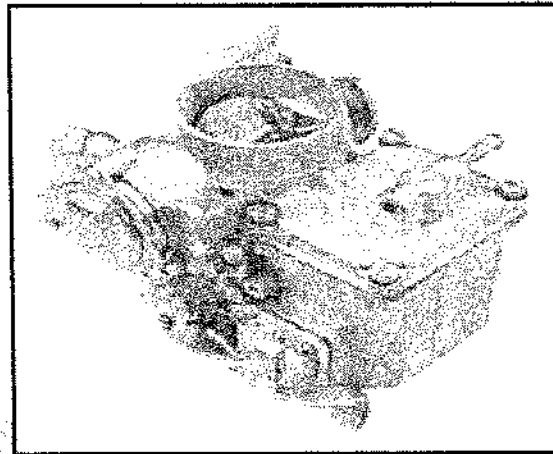

FIGURE 3
5.1 FIGURE 3 shows a carburettor that is used in vehicles.